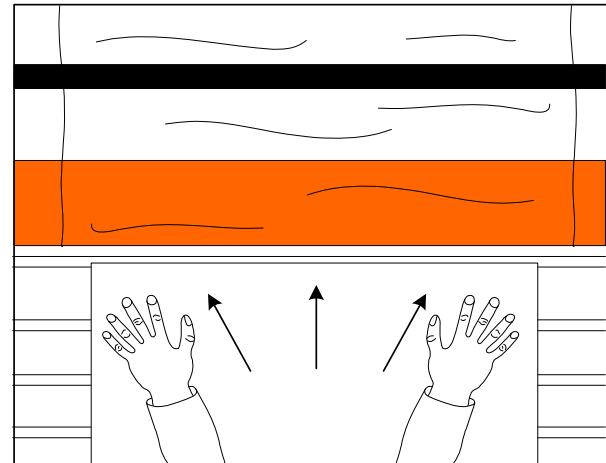

FIGURE 28
10. Use both hands to force the image outward and slowly push inward toward the nip of the heat rollers.(Fig. 28).